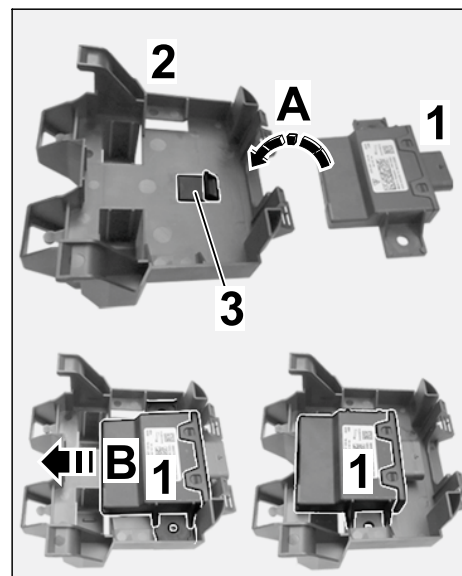

Figure 7
- 2.4 Insert new engine noise control unit at the underside in the control unit holder (⇒ *Figure 7-A*).